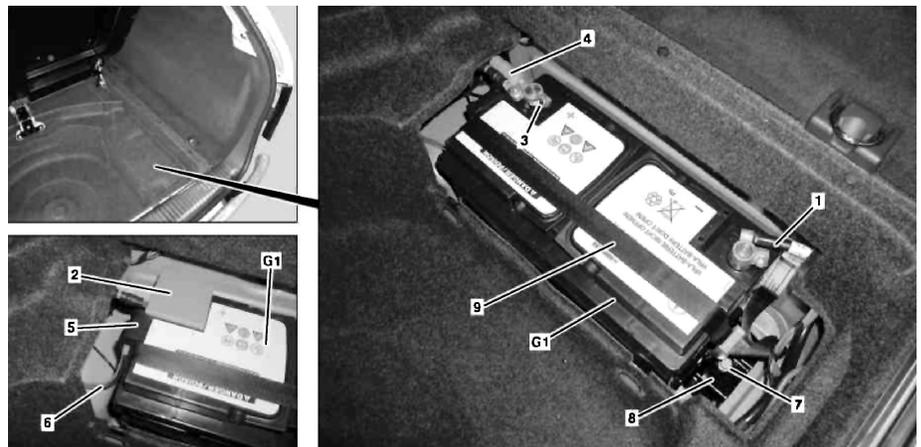

Fig. 2 Primary battery removal
6. Remove positive terminal cover (2), **Fig. 2**.
7. Loosen nut (3), and remove positive line (4) from battery (G1), **Fig. 2**.
8. Unclip cover (5), and detach bleed hose (6), **Fig. 2**.
9. Remove bolt (7), and remove bracket (8), **Fig. 2**.
10. Loosen retaining strap (9), and remove battery (G1) with supporting bracket from load compartment, **Fig. 2**.
4. Install bolt (7), and install bracket (8), **Fig. 2**.
5. Attach bleed hose (6) and clip in cover (5), **Fig. 2**.
6. Install positive line to battery. Ensure that positive line (4) is seated firmly, otherwise positive terminal may be damaged, **Fig. 2**.